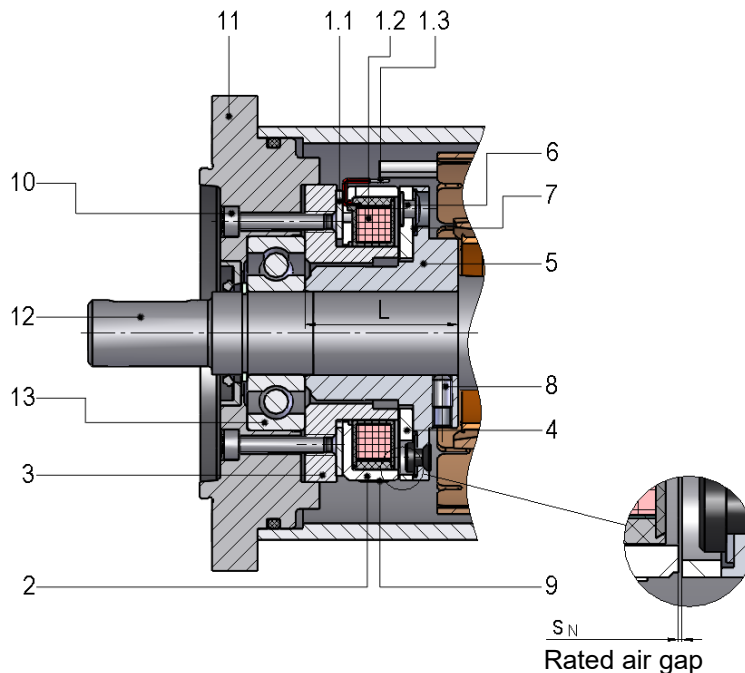

Fig. 14/1: Permanent-magnet single-face brake 86 611..H00 with armature 400
**i** The distance L (see Fig. 14/1) between the outer ring of the ball bearing (13) (limit stop for inner ring (3) of brake) and the stop shoulder of the machine shaft (e.g. motor shaft) (12) (limit stop for flange hub (5)) must be dimensioned in such a way that the required rated air gap  $s_N$  (see Table 37/1 – Technical specifications) is automatically adjusted when the brake is mounted to the machine (e.g. motor).
**List of reference numerals in Fig. 14/1:**